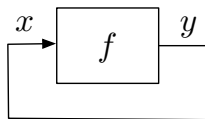

Figure 2.40: Is this a function?
10. Why does the block diagram in Figure 2.40 not define a function?